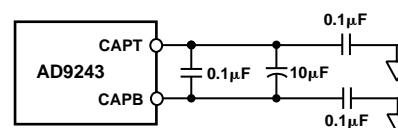

Figure 27. Recommended CAPT/CAPB Decoupling Network
The actual reference voltages used by the internal circuitry of the AD9243 appear on the CAPT and CAPB pins. For proper operation when using the internal or an external reference, it is necessary to add a capacitor network to decouple these pins. Figure 27 shows the recommended decoupling network. This capacitive network performs the following three functions: (1) along with the reference amplifier, A2, it provides a low source impedance over a large frequency range to drive the A/D internal circuitry, (2) it provides the necessary compensation for A2, and (3) it bandlimits the noise contribution from the reference. The turn-on time of the reference voltage appearing between CAPT and CAPB is approximately 15 ms and should be evaluated in any power-down mode of operation.
The figures associated with this section on internal and external reference operation do not show recommended matching series resistors for VINA and VINB for the purpose of simplicity. Please refer to section "Driving the Analog Inputs, Introduction" for a discussion of this topic. Also, the figures do not show the decoupling network associated with the CAPT and CAPB pins. Please refer to the section "Reference Operation" for a discussion of the internal reference circuitry and the recommended decoupling network shown in Figure 27.